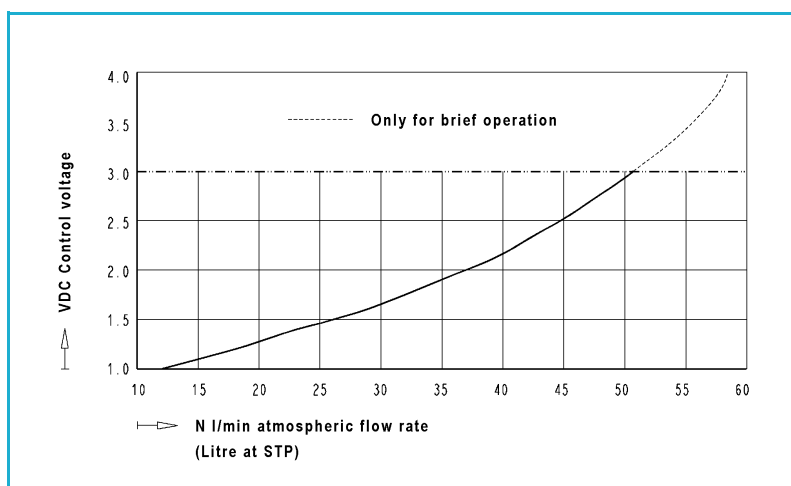

Fig. 7: Atmospheric flow rate of the pump N 940.5 APE-W, as a function of the applied control voltage
- External control The pump's speed is regulated via a control voltage. Fig. 7 shows the atmospheric flow rate of the pump as a function of the applied control voltage.
Control voltages of < 1.0 V are not permitted (fig. 7). This ensures that the pump operates smoothly. The control voltage is only permitted to be between 3.0 V and 4.0 V for short times (fig. 7), as the mechanical and electrical components are stressed, shortening the pump's service life. The control voltage is not allowed to exceed 4.0 V.